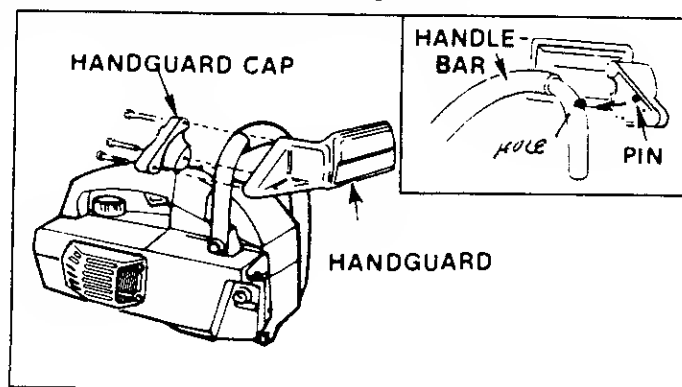

Figure 6
1. Align the Handguard and Handguard Cap around the handlebar as shown in Figure 6.
2. Fit the mounting pin on the Handguard into the hole in the handlebar. Figure 6, (inset).